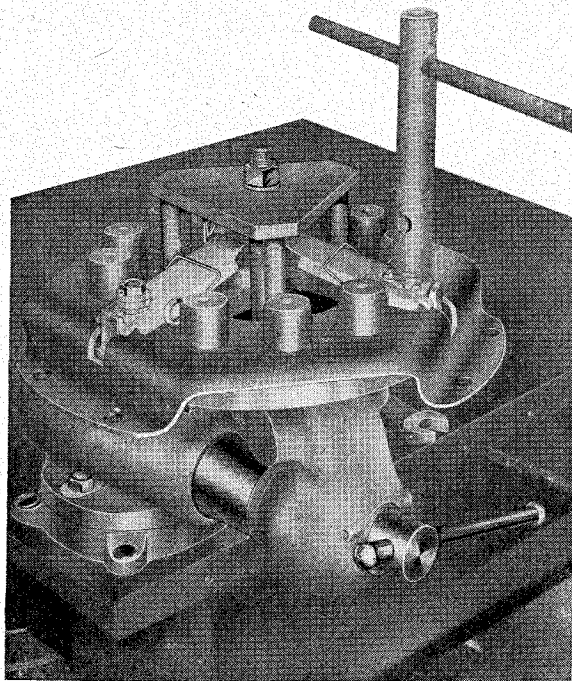

Fig. 47.
4. Clamp the clutch housing into a vice as shown in Fig. 47. Unbolt the clutch cover by applying the puller bolt 4461.90 against the pressure plate so that both parts of the clutch remain together after the adjuster nuts have been screwed out.